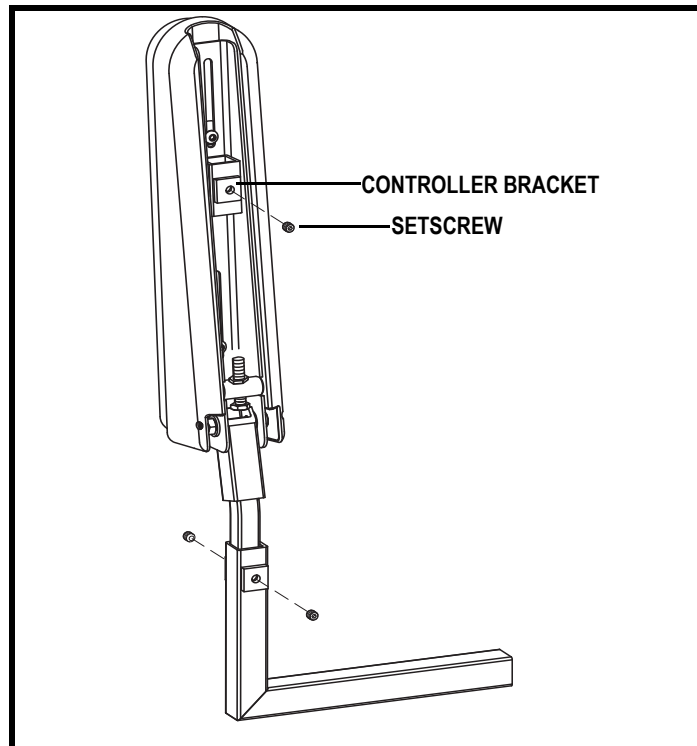

Figure 18. Underside of Armrest
2. Loosen the setscrew on the controller bracket. See **figure 18**.
6. Flip up the armrest and loosen the setscrew. See **figure 18**.